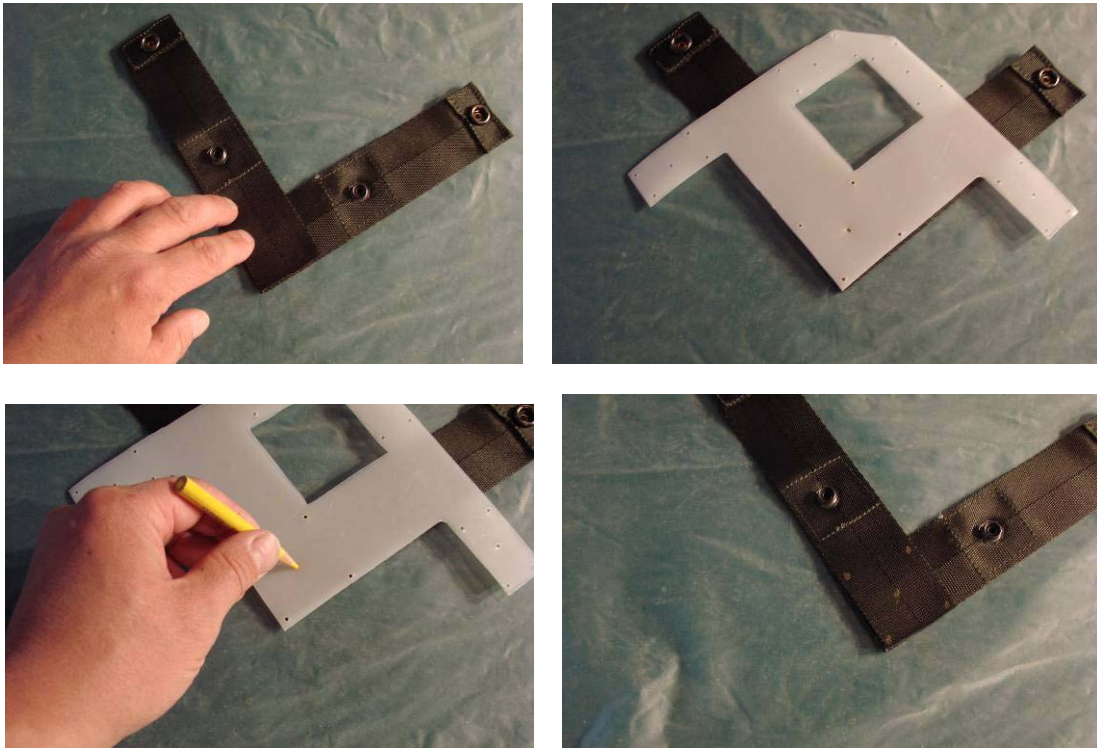

Figure 47. Mark the Diagonal Back Strap Retainers.
22. Using a glue gun, apply a small amount of glue to hold the diagonal back strap retainers. Mark the diagonal back strap retainer using the template (Figure 47).